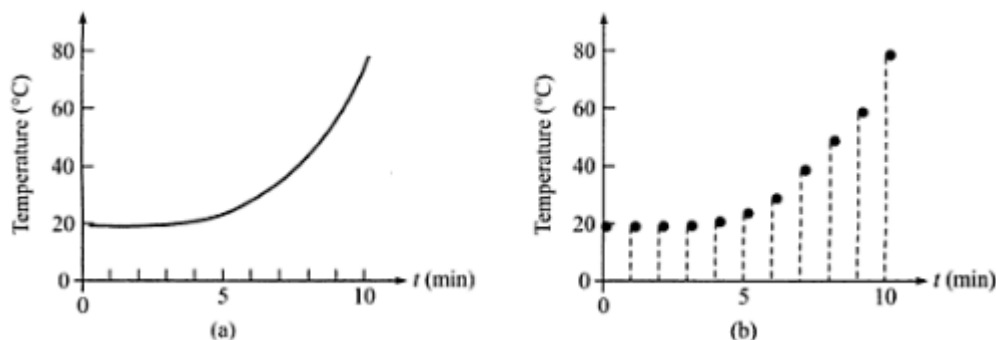

Figure 1.1: (a)analog signal (b)digital signal
- Electronic-circuits can be divided into 2 broad categories: analog & digital (Figure: 1.1).